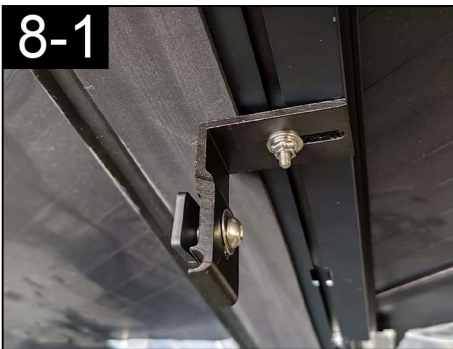

Figure 8-1-1
Step 8-1: If your truck bed is built with rail system, please fix by the block (bag 3.1) and short bolt (bag 3.1). The final appearance is shown in Figure 8-1-1.